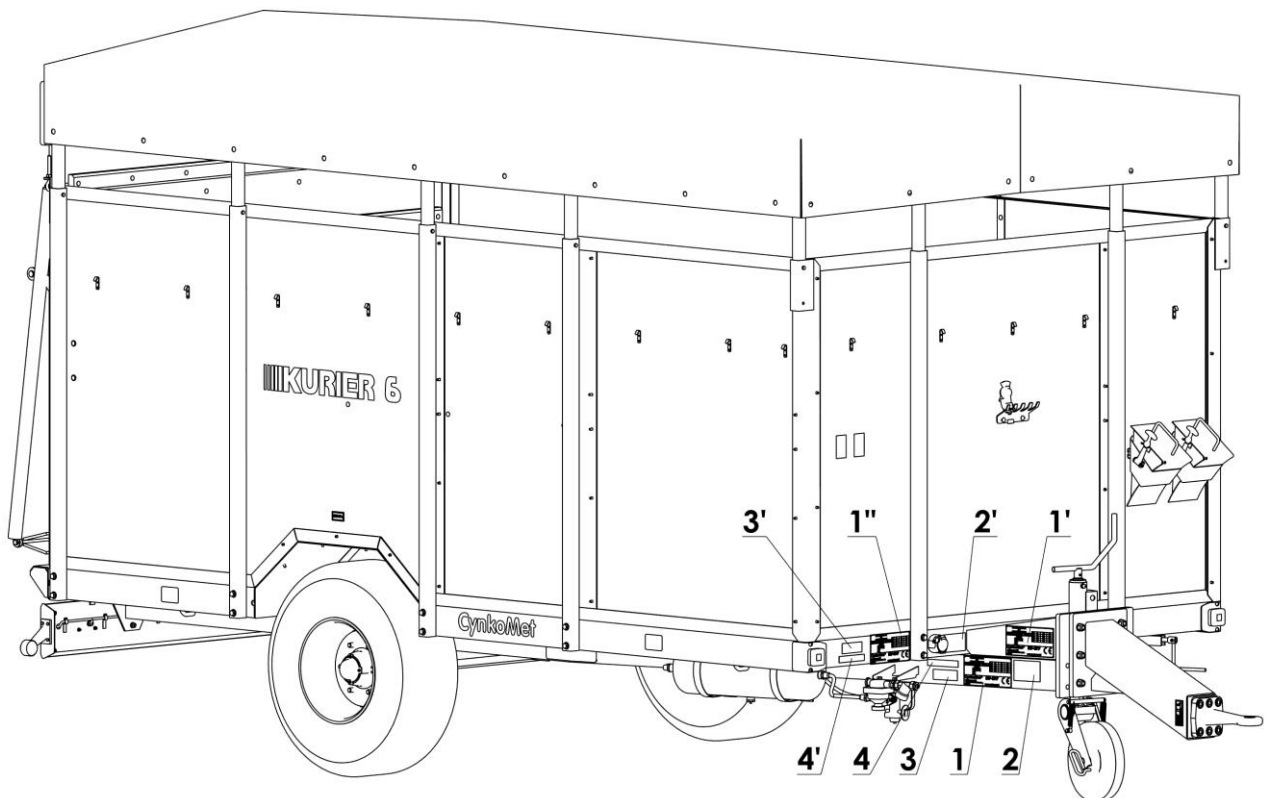

Fig. 1 Potential place of rating plate fixing and serial number stamping, and reference rating plate
The trailer is marked with the plate (1) and a serial number (VIN) (2). The rating plate is affixed and the serial number stamped on the front beam of the frame – figure 1.